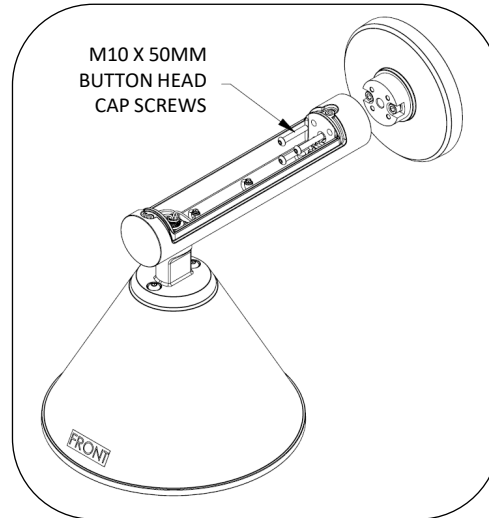

Fig. 4 – ATTACH ARM TO CASTING
8. Attach luminaire arm to the wall mount casting, see Fig. 4.